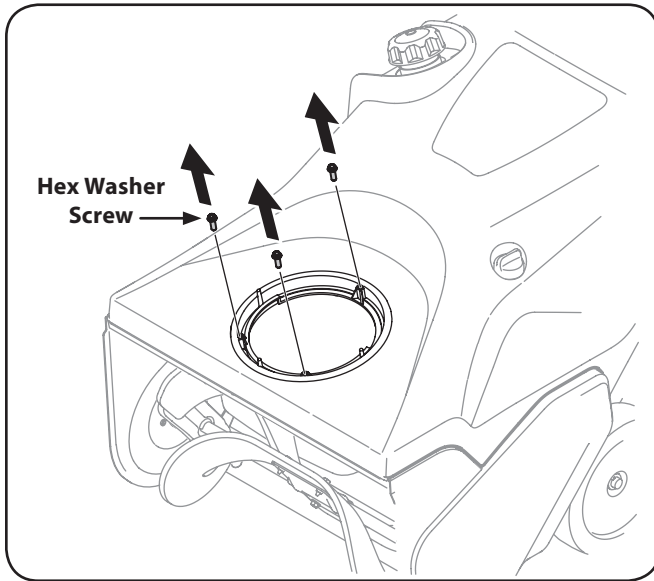

Figure 3-4
1. Remove the hex washer screws in the chute base. See Fig. 3-4.